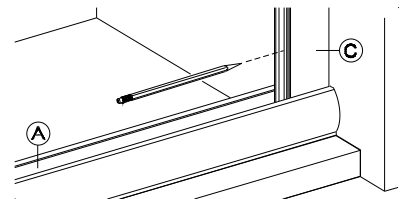

figure 2
3. Place Wall Jamb (C) into ends of Sill (A) and up against shower walls as shown in figure 2. Plumb the Jamb, then pencil mark their installation holes locations on shower walls (3 per jamb). Remove Wall Jamb. Using a 3/16" masonry bit, drill 1" deep installation holes in locations previously marked. Insert Plastic Screw Anchors (N) into holes.
4. Reposition Wall Jamb (C) as before and secure Jamb to walls using the six(6) 1-1/4" Installation Screws provided (3 per jamb).